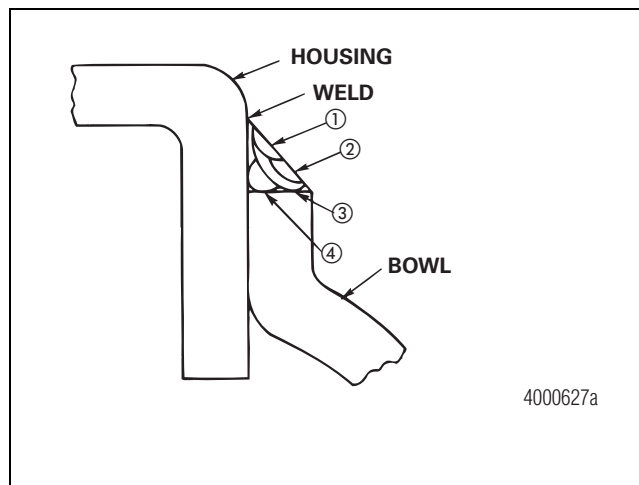

Figure 3.5
4. Gouge approximately four grooves into the housing-to-cover weld crack area the full length of the crack plus an additional one-inch (25.4 mm) past each end or side of the crack. The grooves must not be more than 0.25-inch (6.4 mm) deep. Figure 3.5.